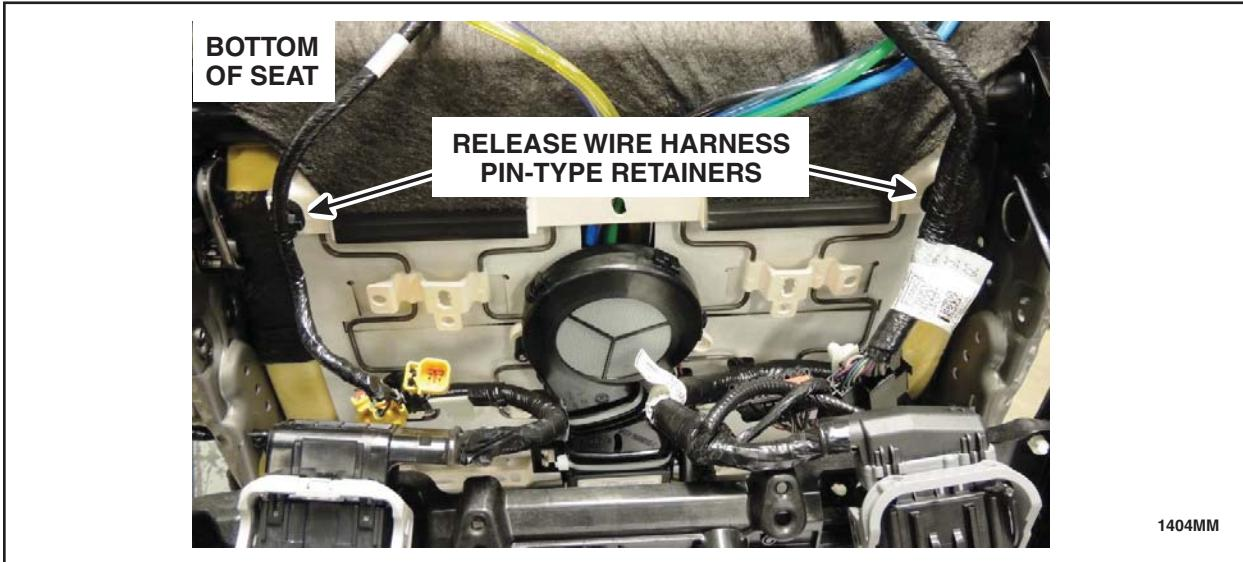

FIGURE 2
15. Install the two *new* backrest cover pin-type retainers and install and tighten the two hard back panel screws. See Figure 2.
5. Release the wire harness pin-type retainers. See Figure 2.